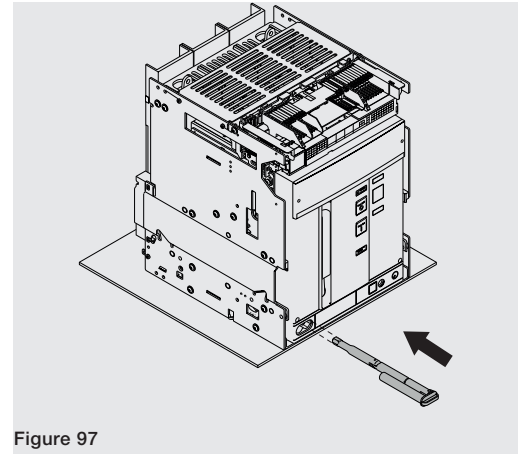

Figure 97
13. Replace the crank in its housing See Figure 97.